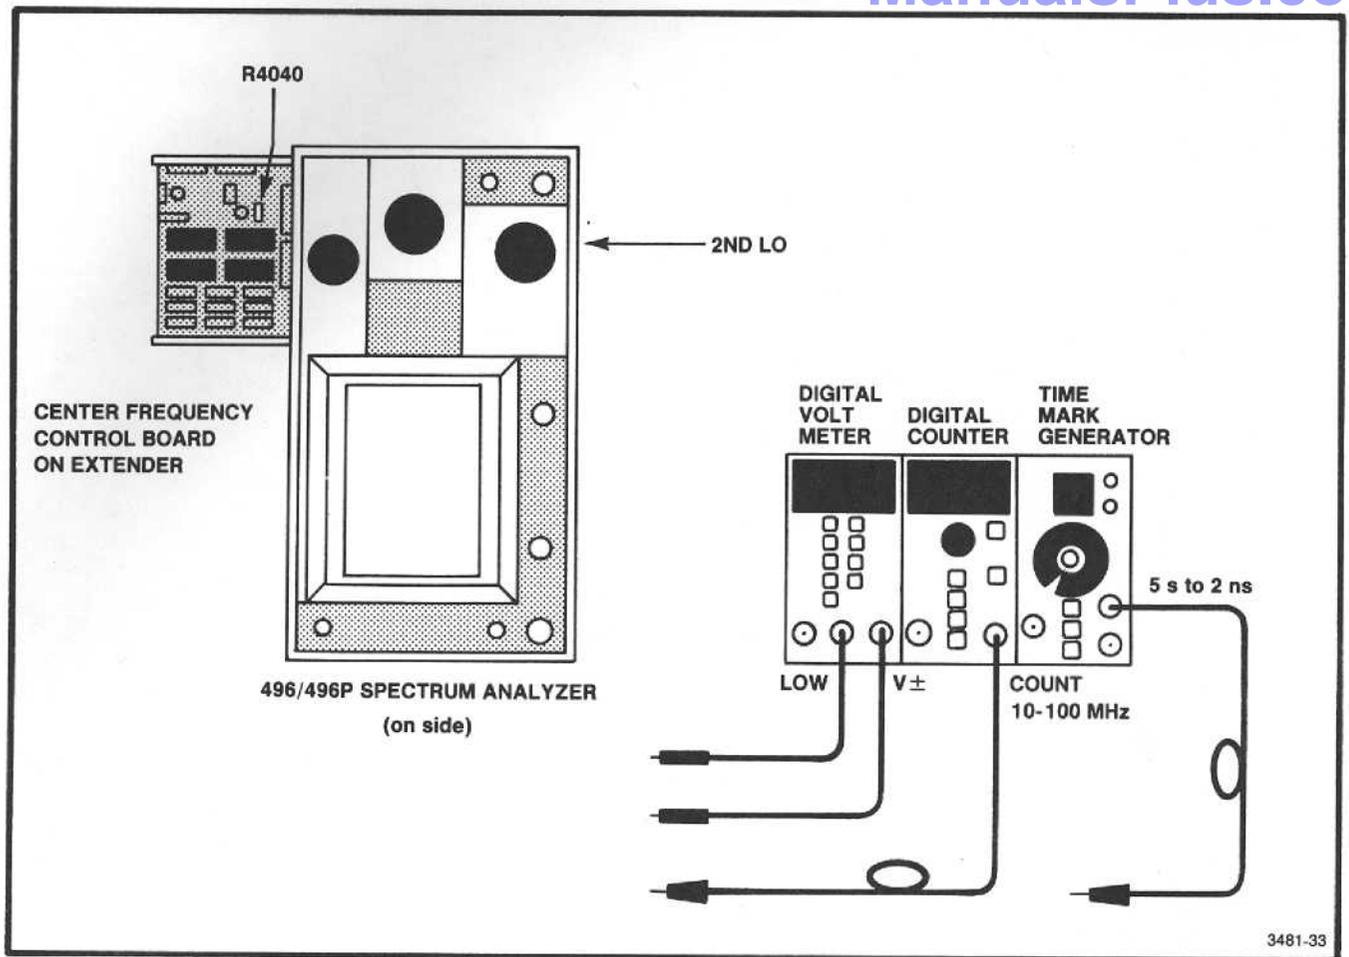

Fig. 4-15. Test equipment setup for calibrating the phaselock section of the 2nd LO.
a. Test equipment setup is shown in Fig. 4-15. The 2nd LO should be installed in the 496/496P. Remove the Center Frequency Control board and place it on an extender. Place the 496/496P on its side.